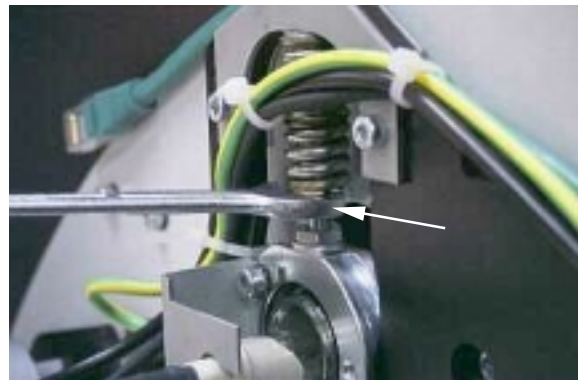

fig. 29
- To change the pressure, place the 10mm open-ended spanner on the M6 nut, that is directly under the compression spring (so, the upper jamnut, see figure 29, white arrow).